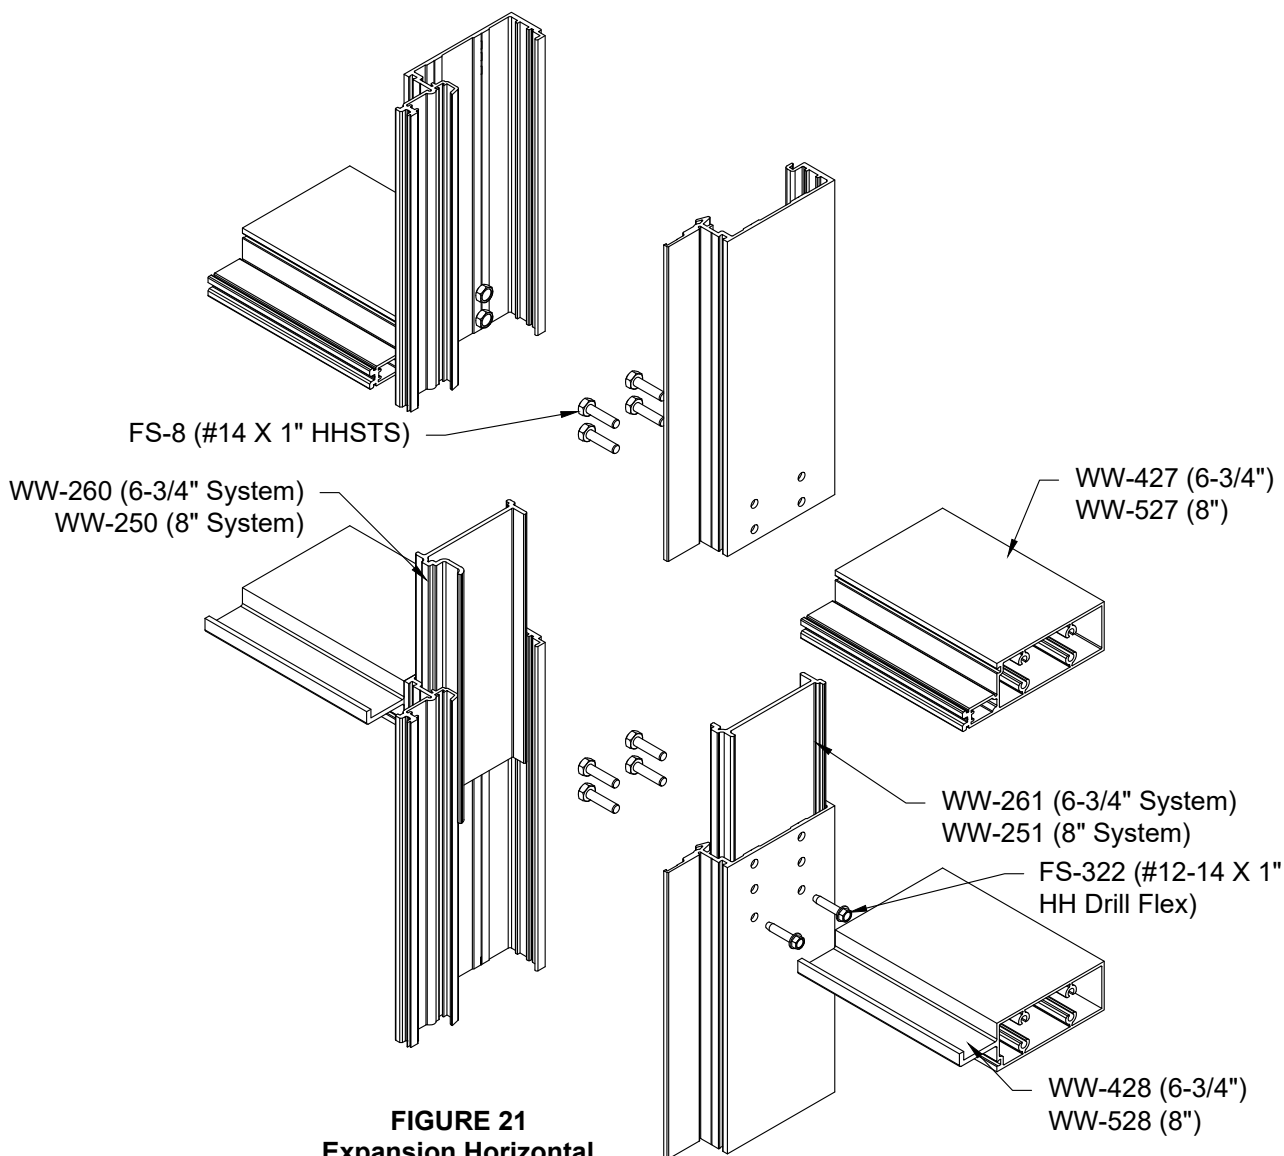

**FIGURE 20**
- 2.28 When using the WW-436, WW-437, WW-536, WW-537 horizontals for the expansion horizontal connection fabricate top and bottom of mullion as shown in FIGURE 19. If using WW-836 & WW-837 fabricate per FIGURE 20. Note that the dimension from the end of mullions to hole center line is different in these two drawings.